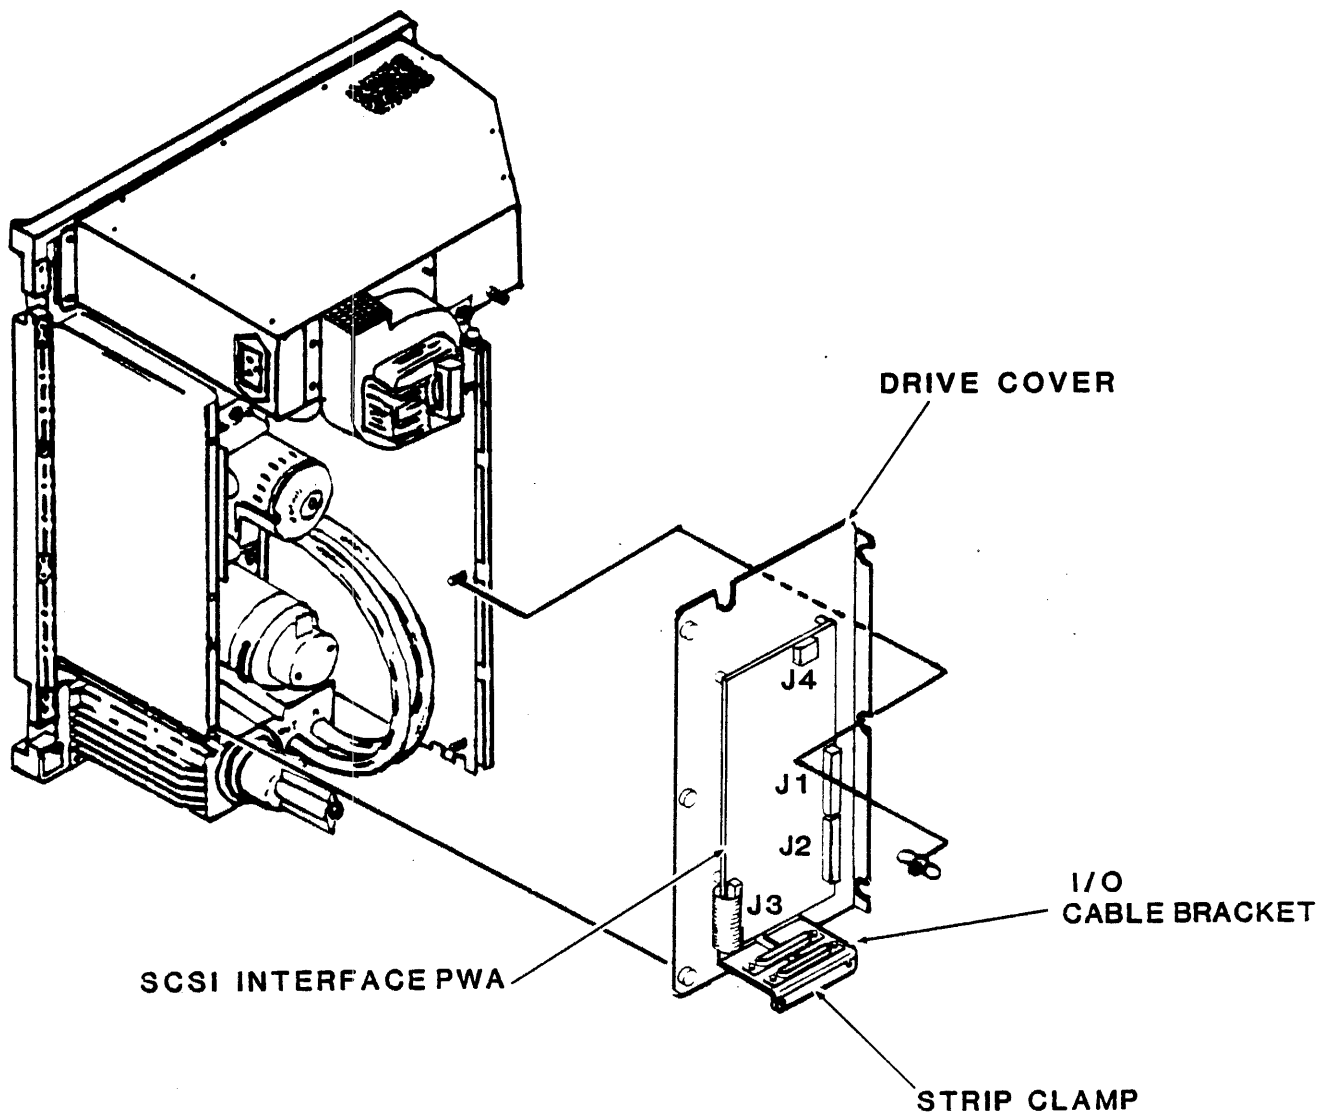

Figure 6-28. Drive Cover With SCSI Interface PWA
4. Loosen wing nuts and screws securing drive cover with SCSI PWA and remove drive cover assembly (Figure 6-28).